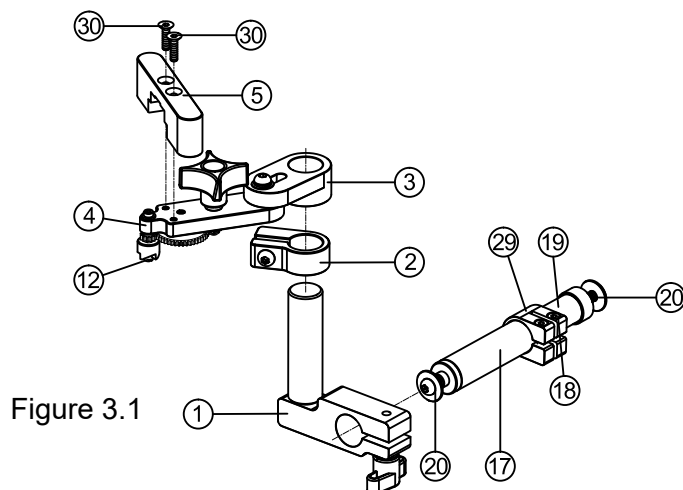
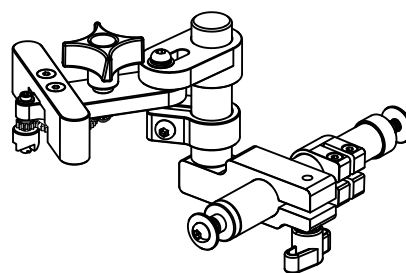

Figure 3.1
Figure 3.2
1. Use the 2.5mm Hex wrench (31) and two countersunk countersunk flat head screws (30) to assemble the locking plate (5) onto the main body (4).
2. Use a flathead screwdriver (SL4) to install the pilot bolt of PM Ø4.9 (12) on the main body (4) for positioning.
3. As shown in Figure 3.1, assemble the related parts in sequence to form the assembly shown in Figure 3.2.